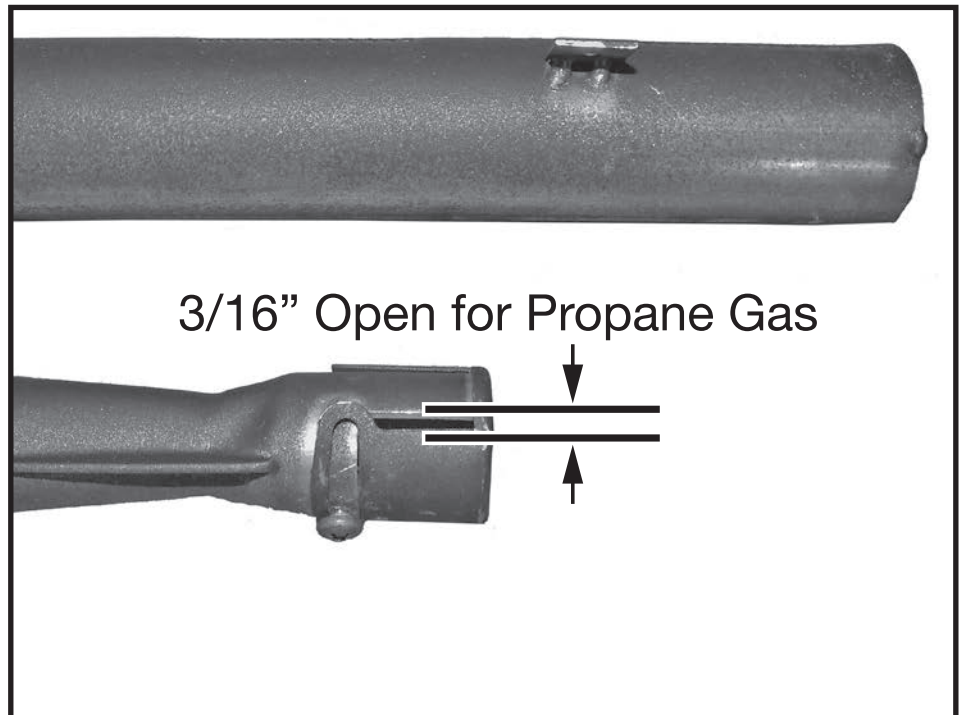

Figure 23: Shutter gap for propane.
5. Loosen the primary air shutter screw on each burner, open the shutter to give a gap of 3/16" and re-tighten (Figure 23).